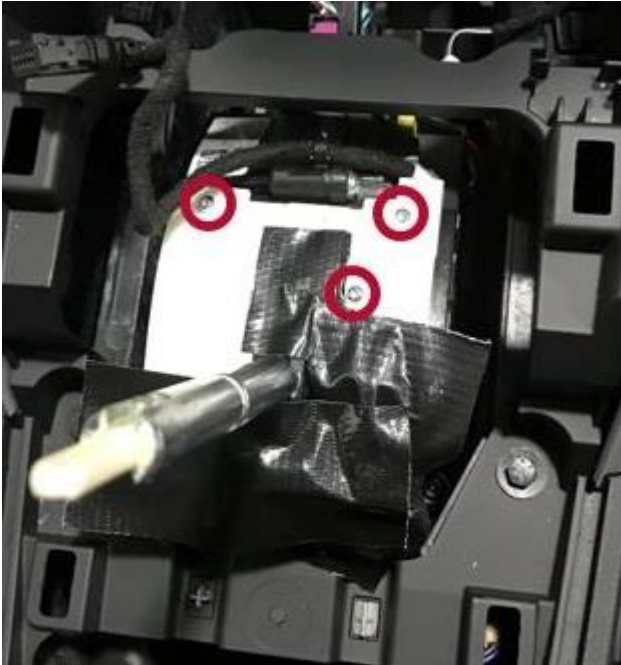
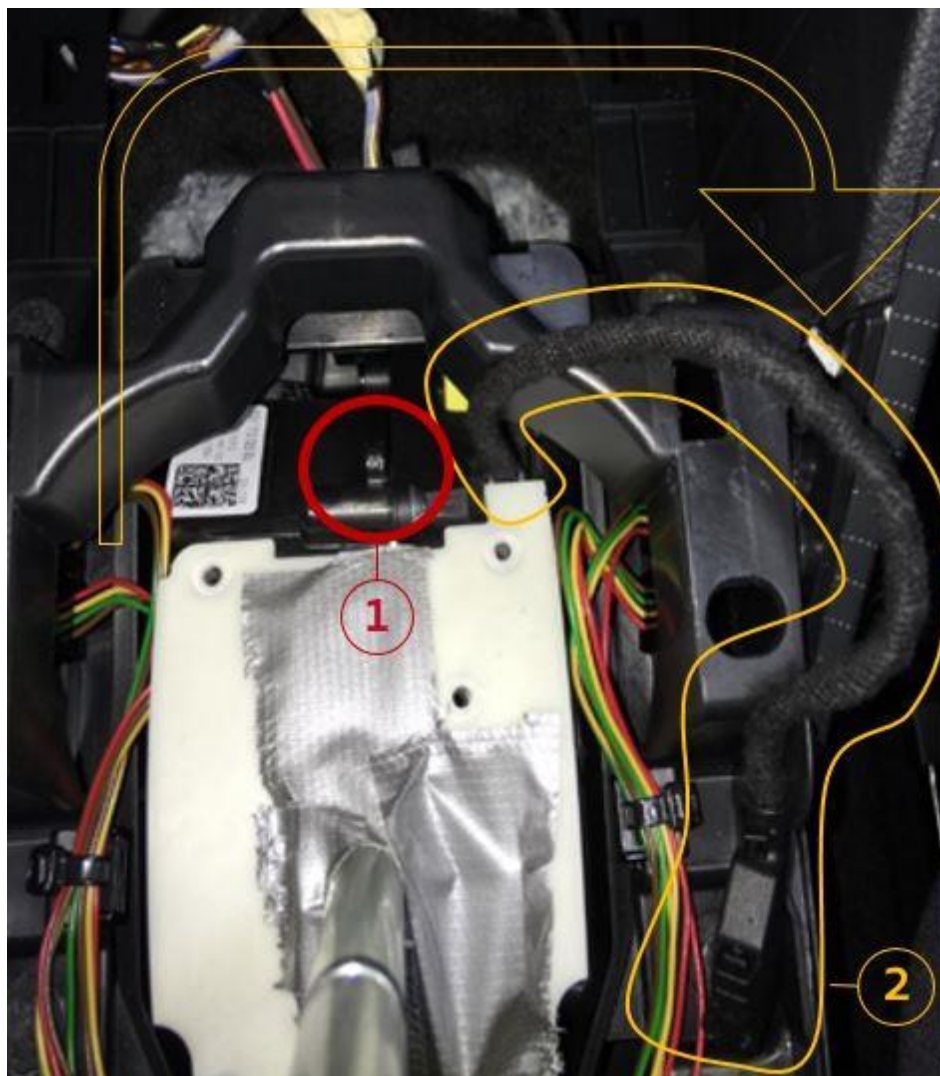

Figure 6. The tape covering shift gate and screw locations.
Figure 7. Display unit Y26 harness repositioning.
- Tape the opening of the shift gate to protect the module from screws or tools falling into the control module. Tape the opening as shown below while leaving the screws (circled in red) uncovered (Figure 6).
6. Remove the T-9 screws show above (Figure 6) circled in red. You may discard these screws, as they will not be reused. Then move the wiring of the selector lever transmission range position display unit Y26 out of the way to the passenger side as shown below (Figure 7). Remove the harness from the retention clip (Position 1) and set the harness to the side as shown in yellow (Position 2).